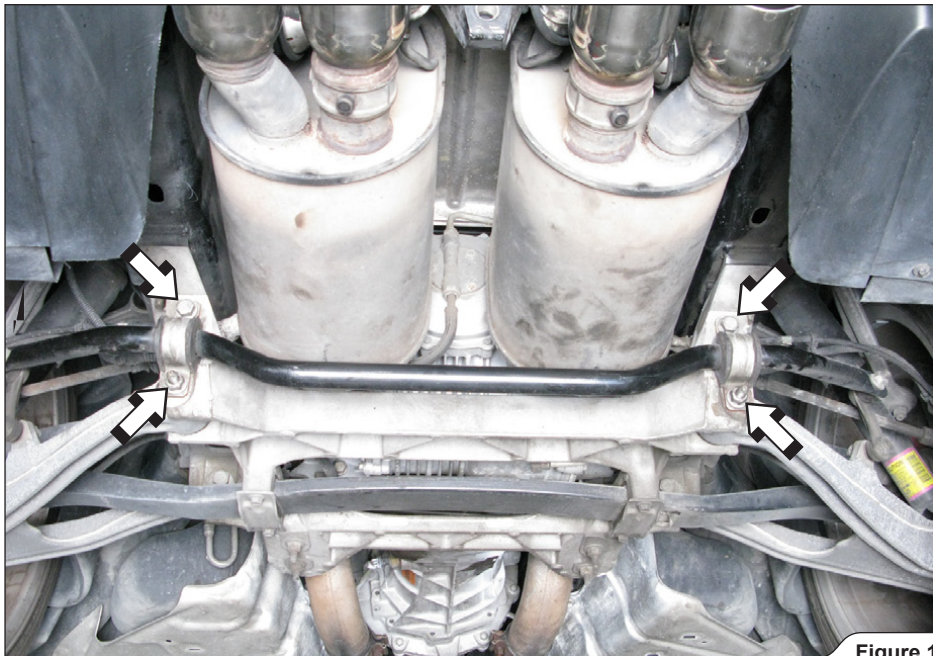

Figure 1
1. For Slip-On and Evolution: unscrew the marked bolts and nuts. Move the drag link out of the way (Figure 1, 2).